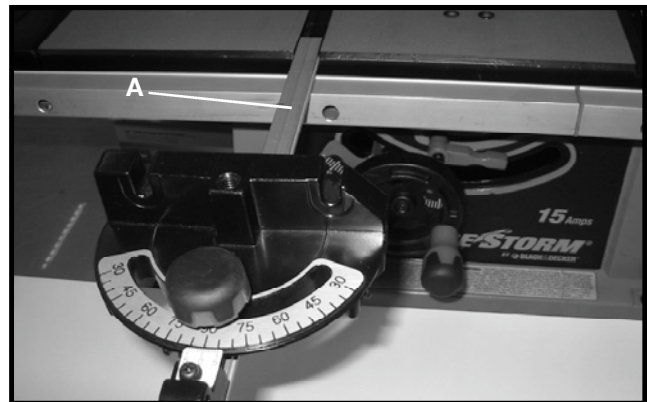

Fig. 23
The miter gage is shipped completely assembled and is supplied with a T-slot miter gage bar (A) Fig. 23, that is inserted into either one of the two T-slotted miter gage grooves located in the table top, as shown. The T-slot miter gage prevents the miter gage from falling when it is extended out beyond the front of the table when cross-cutting extra wide workpieces.